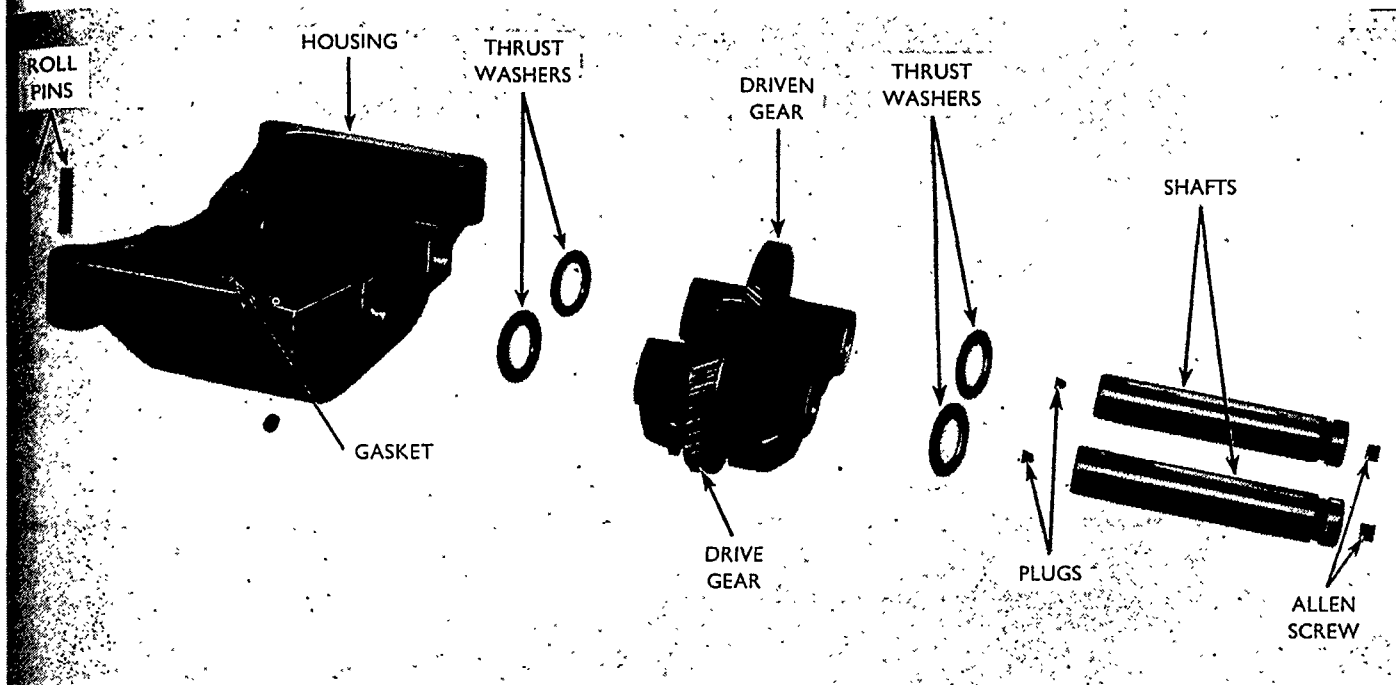

Figure 62
5. Remove the shafts, balancer gears, and thrust washers, Figure 62, from the balancer support.